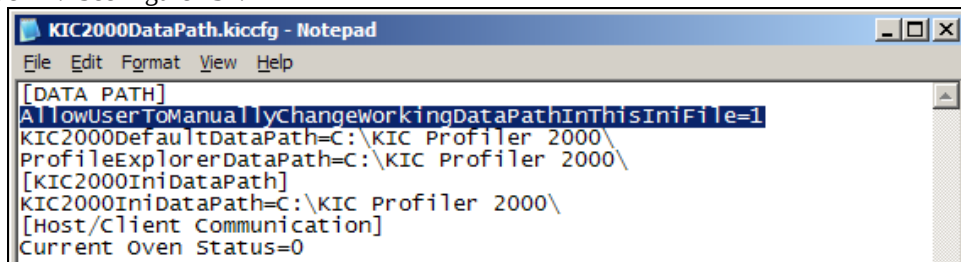

Figure 232
3. Change the line AllowUserToManuallyChangeWorkingDataPathInThisIniFile=0 to the value =1. See Figure 232.